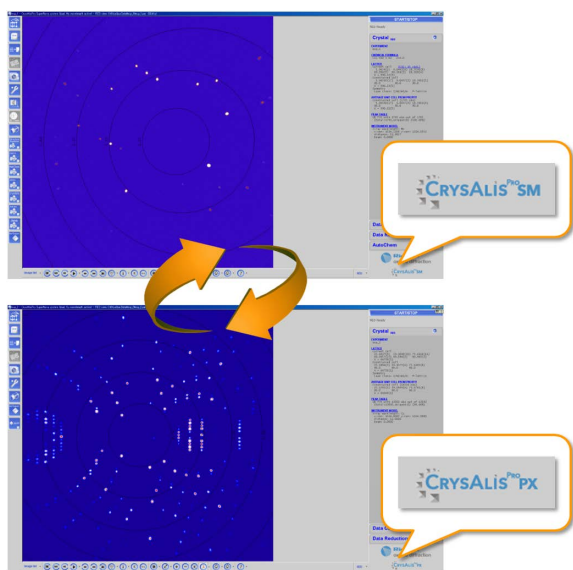

Fig. 3. Switch between SM and PX mode with the click of a button.
Simply toggle between small molecule (SM) and macromolecular (PX) modes for fully optimized workflows and data reduction routines (Fig. 3). Both non-experts and crystallography specialists can set up, run and process experiments intuitively and efficiently, in fully automatic, semi-automatic and manual modes, adjusting analytical strategies for a wide variety of experimental targets including redundancy, time and resolution. An intelligent pre-experiment evaluation of crystal quality automatically suggests optimal experimental parameters, increasing productivity and accuracy. CrysAlis^{Pro} boasts a comprehensive package of absorption correction methods and a highly effective range of specialized tools and functions for the most complex datasets. Synchrotron data can be imported, and experimental results for use in other crystallography software.